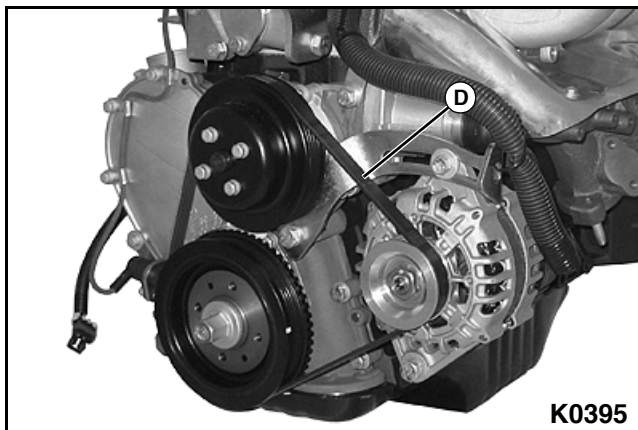

Figure 5-20
4. Set drive belt tension to specification. See Figure 5-20.
- Apply specified pressure to the drive belt at its midpoint. At the same time, measure the amount of deflection of the drive belt at its midpoint (D). Deflection should be within specification.